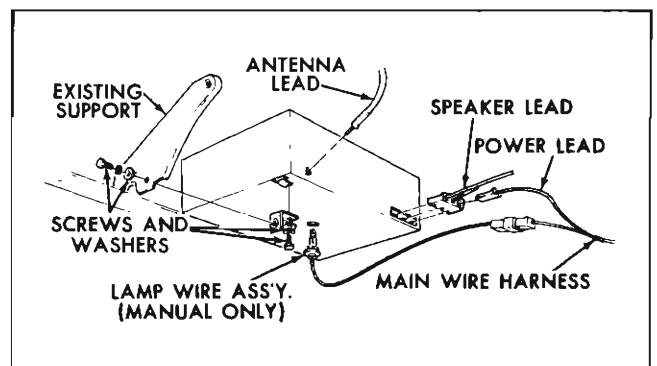

Fig. 12-17 Tempest Radio—Rear View Reference Illustration
### SPEAKER—REMOVE AND REPLACE—(Fig. 12-17)
2. Disconnect lead-in plug from radio receiver (Fig. 12-17).